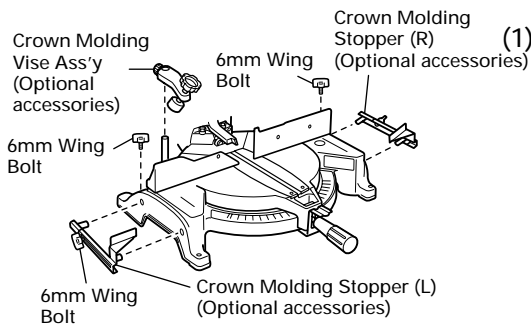

Fig. 30-a
- (1) Crown molding Stopper (L) and (R) (optional accessories) allow easier cuts of crown molding without tilting the saw blade. Install them in the base both-sides side to be shown in Fig. 30-a. After inserting Tighten the 6mm knob bolts to secure the crown molding Stoppers.